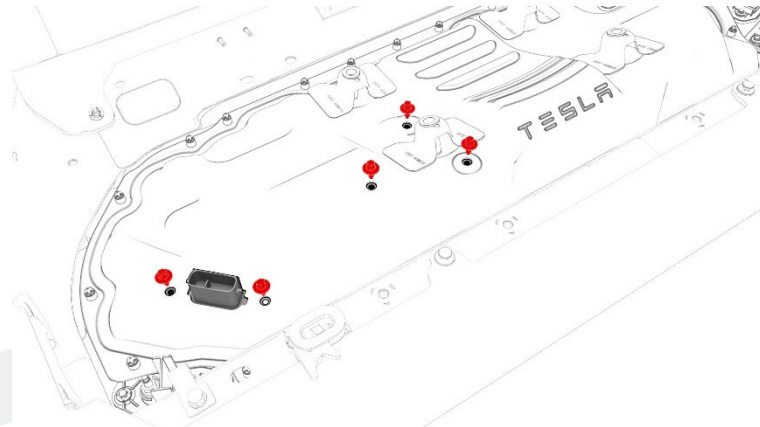

Figure 3 (Bolts that attach the high voltage controller to the penthouse cover)
4. Remove and discard the bolts that attach the high voltage controller to the penthouse cover (Figure 3).
6. Hand-tighten the new bolts that attach the high voltage controller to the penthouse cover (Figure 3).